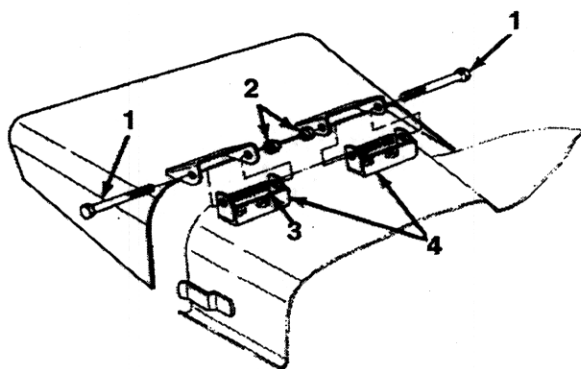

Figure 10
1. Remove the two capscrews, locknuts and springs securing the deflector mounts to the pivot bracket (Fig. 10).
2. To remove the pivot brackets, remove carriage bolts, lockwashers and nuts (Fig. 10).